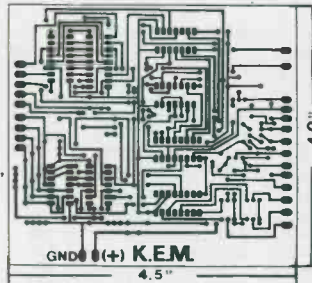

Fig. 1 Sample artwork (Solder side)
- 1) Using black ink, tapes, letterings, draw your artwork on white paper or clear drawing film, taking care to letter clearly. Put the dimensions on the artwork in at least two places as shown in Fig. 1.
SAMPLE ESTIMATE FOR FIG. 1